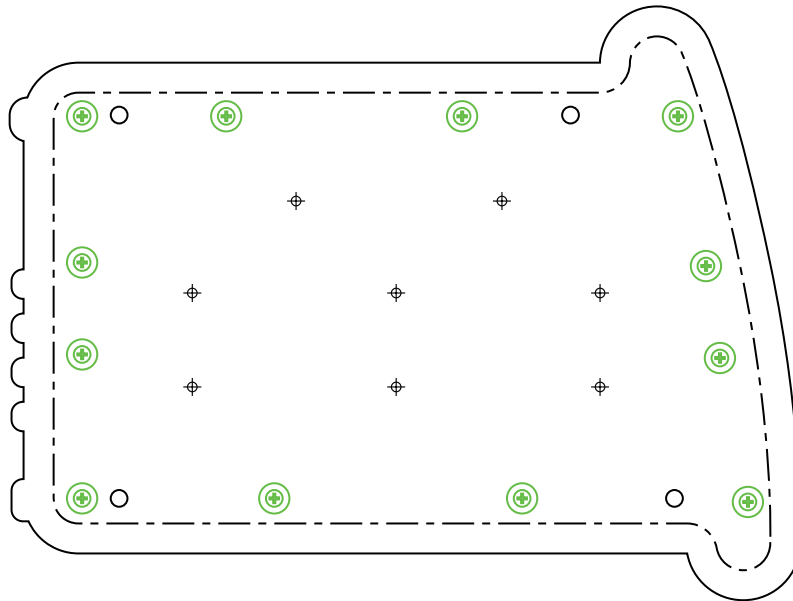

Figure 5-4. Protective Side Covers
4. Referring to Figure 5-4, remove the twelve (12) flat head screws from the reinforcing plate.